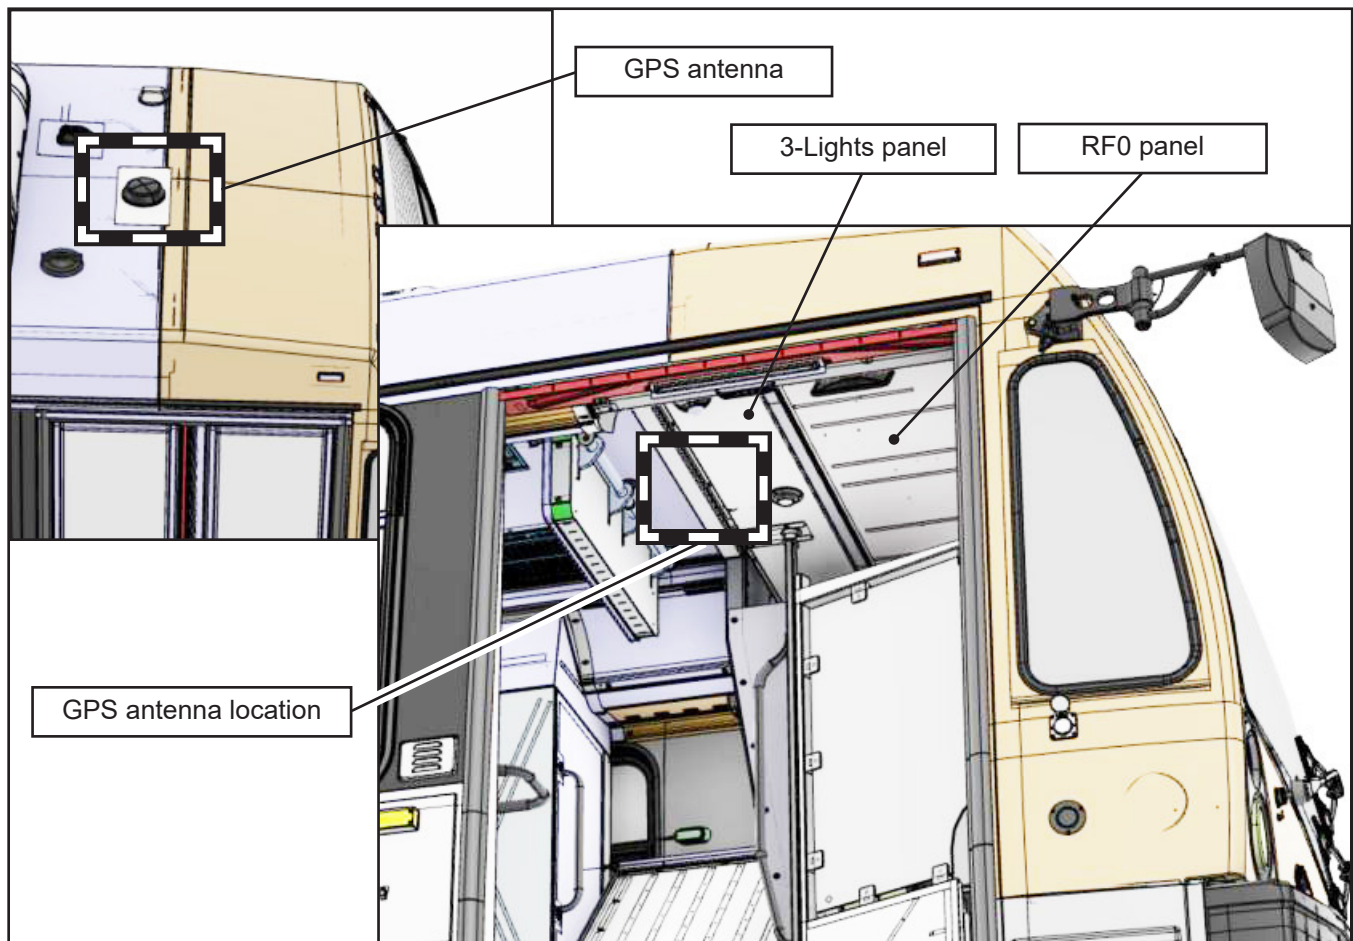

Figure 1 - GPS Antenna Localisation
- 1.4. Locate the GPS antenna (Figure 1).